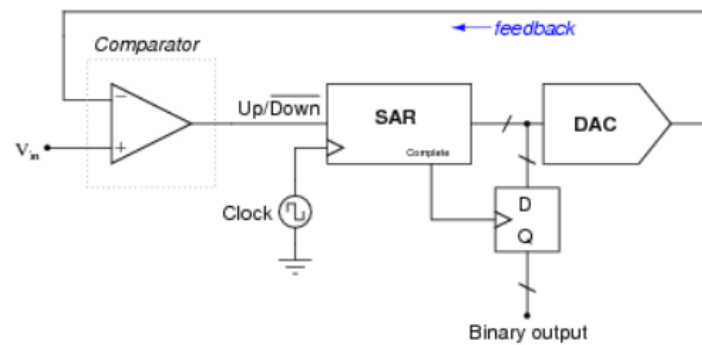

Figure 1c
- c) Explain the operating principle of the circuit shown in Figure 1c, which is an analog-to-digital converter (ADC) known as a Successive Approximation Register (SAR) converter. Note that DAC stands for Digital-to-Analog Converter. Describe how this SAR ADC converts an analog input signal into a digital output, mentioning the roles of the comparator, the SAR, and the DAC in the process?